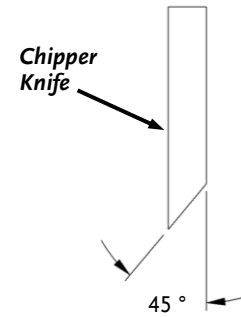

Figure 45
- It is extremely important to consistently maintain the 45-degree angle for proper performance (**Figure 45**).